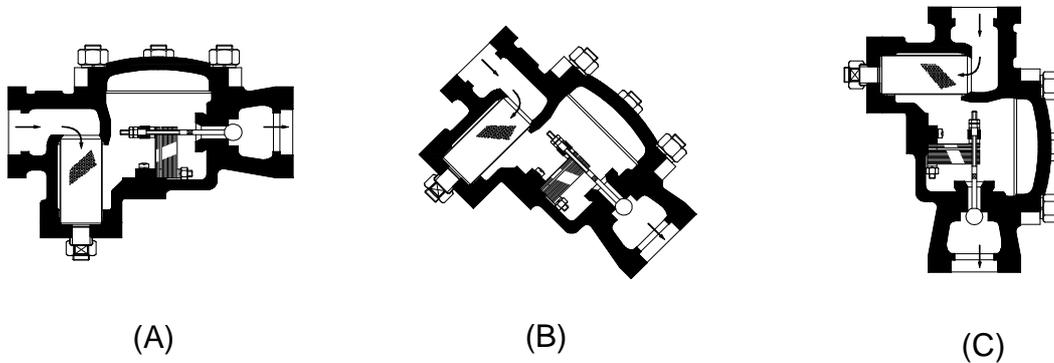

Fig. 1
- a. The trap can be installed in any position without loss of operating efficiency - see figure 1. In the vertical position the trap is self draining and therefore freezeproof provided the condensate can drain away. Direction of flow is indicated by an arrow cast on the body inlet connection.